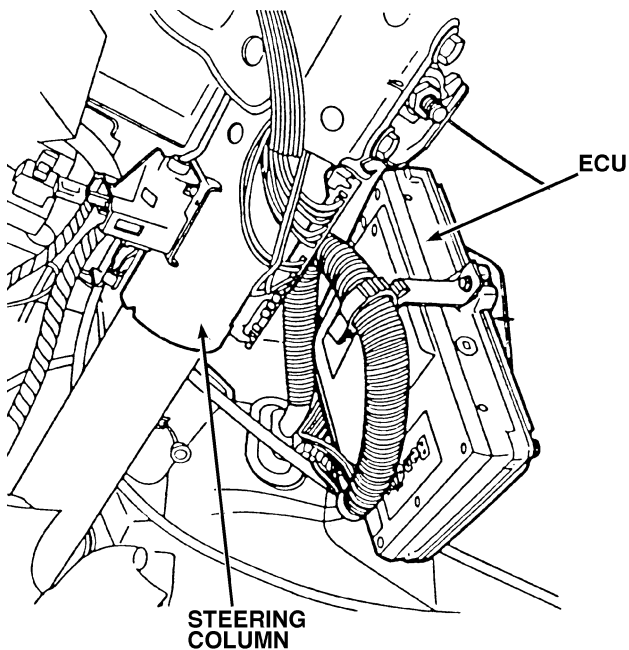

Figure 3.
13. From inside the vehicle, locate the ECM to the right of the steering column, under the instrument panel (Figure 3).